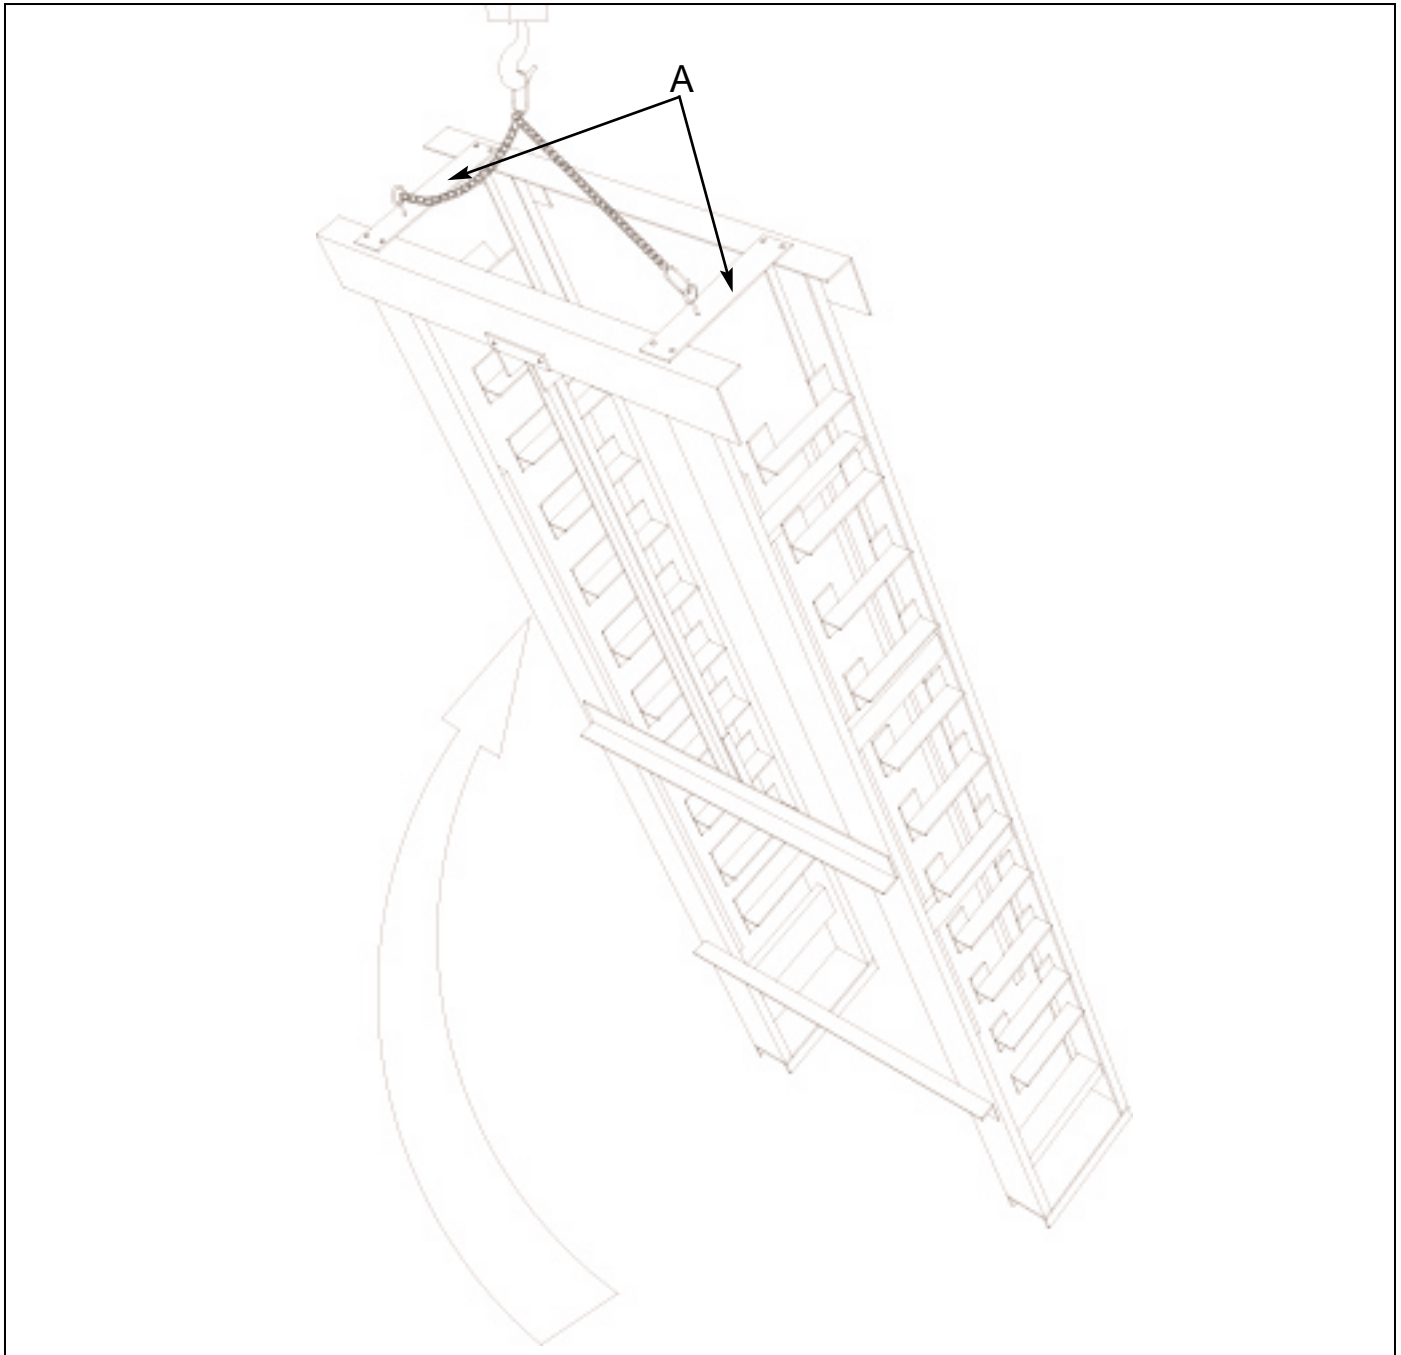

Figure 3.9 LIFT ACCUMULATORS USING CRANE.
To do so, bolt lift plates (A) to top of Accumulators. See figure 3.9.